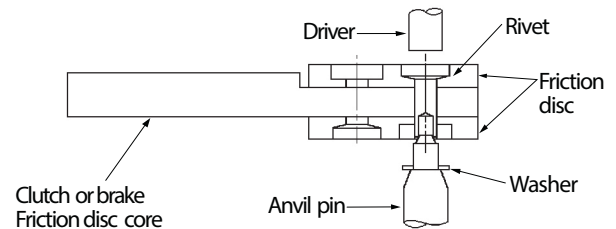
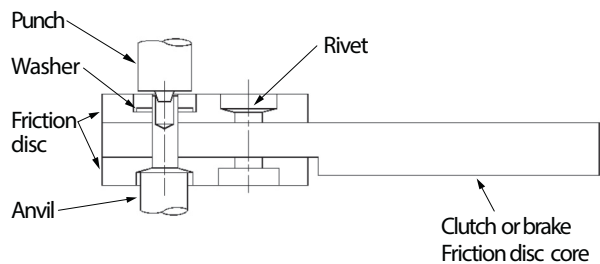

Figure 9
Figure 10
4.4.5.5 Set the rivet using a washer (000153x0985) on the clinched end of the rivet. See figures 9 and 10. Figure 9 shows machine-setting and Figure 10 shows setting the rivet manually. When setting manually, use an arbor press and keep the setting tool square to avoid splitting the rivet. The rivet setting tool optional and available from Airflex as part number 000153X1092. (Stolle part # 089800).